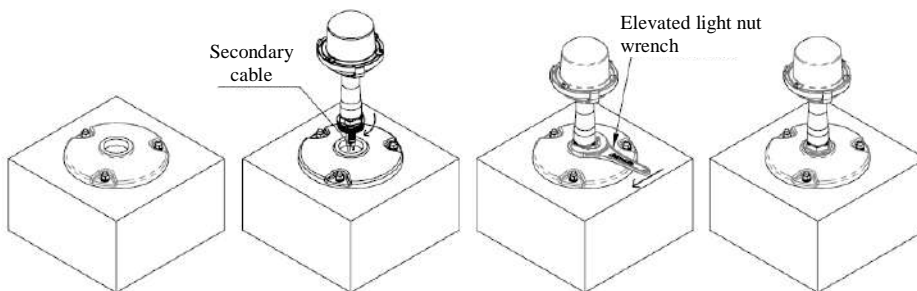

Figure 3-4 Figure 3-5 Figure 3-6 Figure 3-7
- After the flange is installed (see Figure 3-4), connect the secondary cable according to the construction requirements and screw the frangible pole of the lighting fixture into the threaded hole of its chassis (see Figure 3-5).